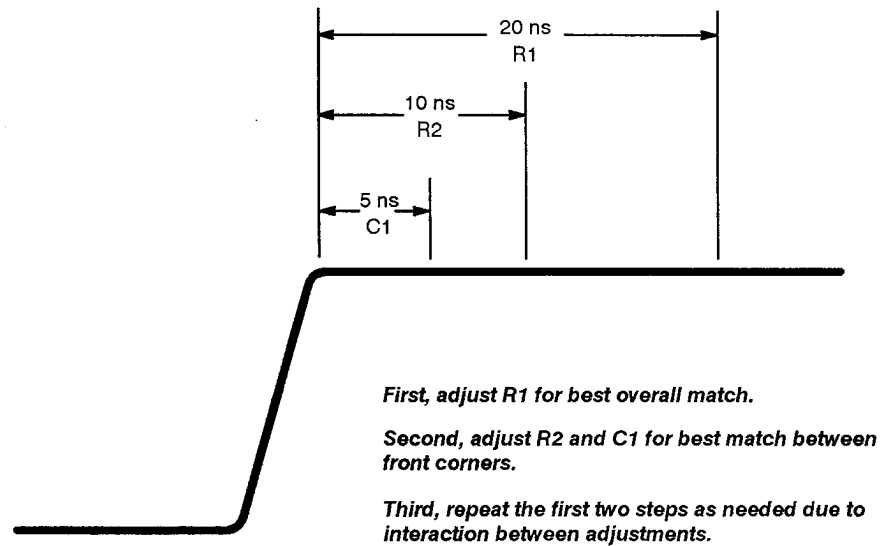

Figure 5-10: Adjustments vs Front-Corner Response
- See Figure 5-10 to see what areas on the front corner that the various adjustments affect.